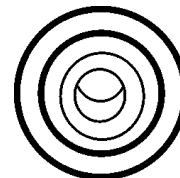

Figure 41. Pre-Heat Lamp
3. Depending on the temperature of the coolant (cold weather conditions), the pre-heat lamp (Figure 41) will light **ON** and remain on until the pre-heating cycle has been completed. After completion of the pre-heating cycle, the light will go **OFF** and the engine will start up automatically.